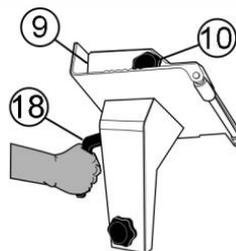

FIG 5. USING THE CARRIAGE
3.- Push the grip (9) by the grip knob (10) all the way down on the product. To slide the carriage back and forth use the carriage handle (18) (See Fig. 5).
4.- Move the carriage assembly all the way back and select the thickness using the slice adjusting knob (7).